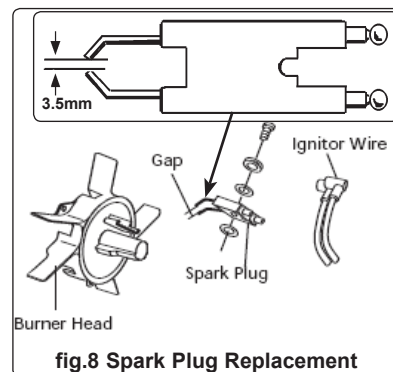

fig.8 Spark Plug Replacement
- 6.3. **Spark plug (electrode).** Clean and check the plug gap every 600 hours, or replace if necessary. Clean the spark plug using a wire brush and set the gap to 3.5mm (fig.8).